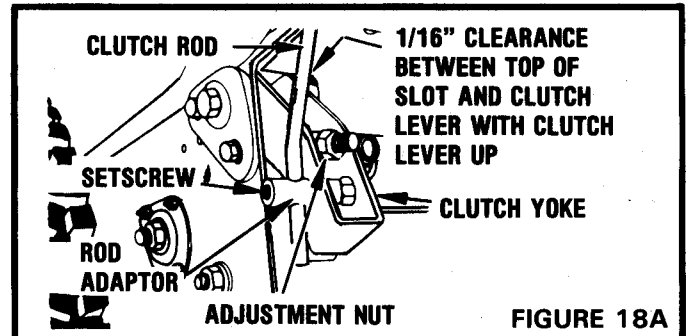

FIGURE 18A
2. Insert the lower end of the traction clutch rod into the rod adapter. See Figure 18A.
turning the wheels until the wheels begin to drag. When wheels begin to drag the clutch lever should be engaged and released prior to adjustment. Back off three (3) turns, See Figure 18A. Wheels should then turn easily.